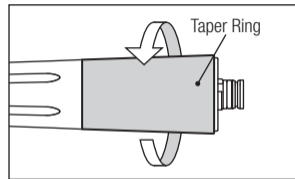

Fig. 14
- 1) Loosen and Remove the taper ring at the rear of the handpiece. (Fig. 14)